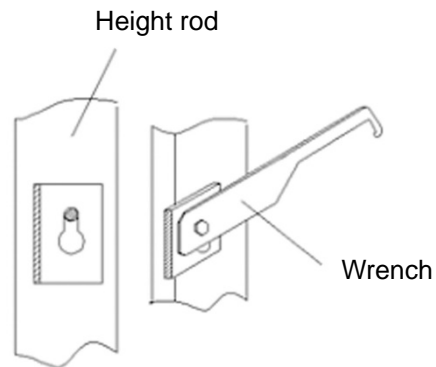

Fig 4.1: Back side hole of the height rod
1. Insert the back side holes of the height rod into the two bolts on the front side of pillar; loosen the height rod pulling downwards until in correct position. (Fig.4-1)